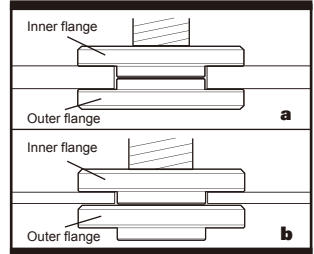
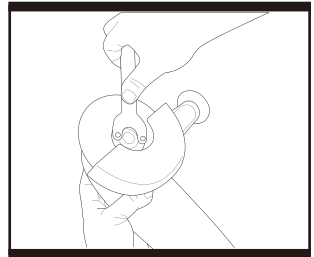
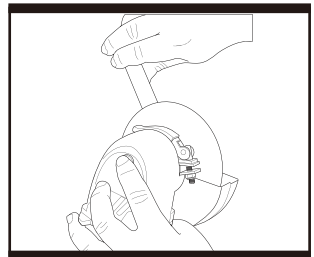

Fig. 6
Fig. 7
Fig. 8
## 5. DISC FITTING (Fig. 6 & Fig. 7 & Fig. 8)
Press the spindle lock button (1) and rotate the spindle until it locks, then firmly tighten the outer flange using the provided spanner to clamp the disc. The pins on the spanner locate in the holes on the outer flange (Fig. 7). Check the disc rotates freely and is securely clamped. Make no load test run for 20 seconds to check disc vibration and disc run out. To remove a disc, reverse these instructions.